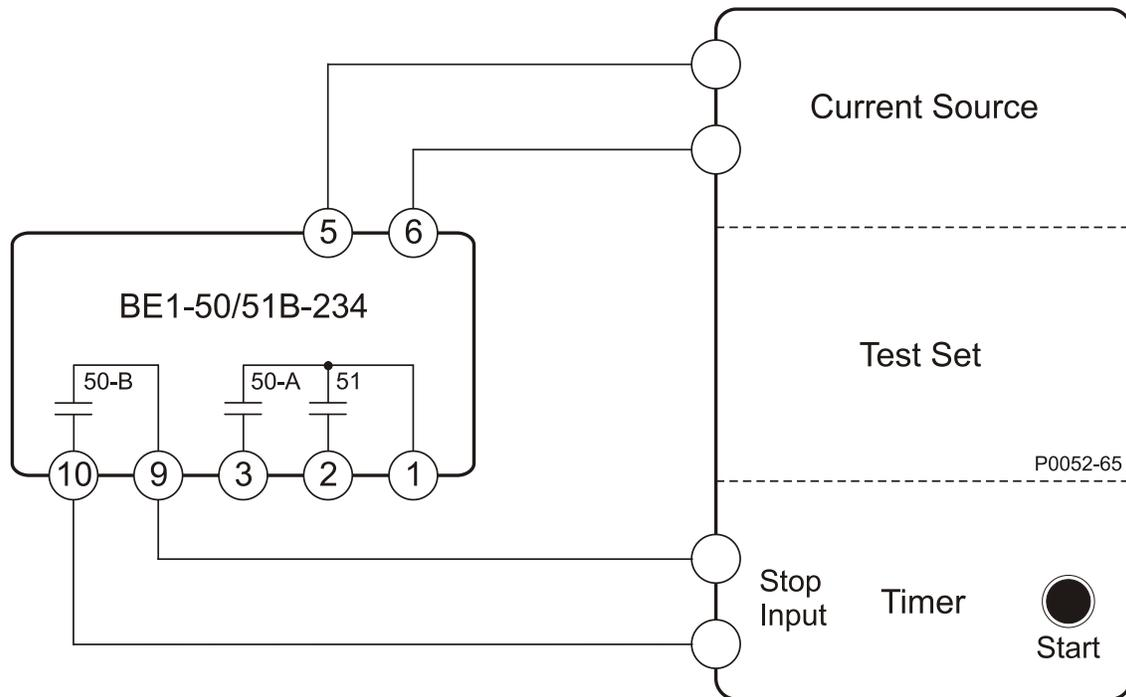

Figure 5-7. 50-B Pickup Test Setup
- a. Connect the test setup shown in Figure 5-7.